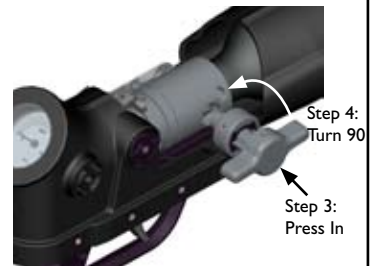

Figure 14d - Close Nozzle Valve
1. Use the Valve Key on the Launcher to close the Nozzle Valve on the Projectile. (Fig. 14d)
2. While pressing in, rotate the Valve Key 90 degrees in a clockwise direction. (Fig. 14c - Step 2) After rotating 90 degrees, release the Valve Key allowing it to extend fully. (Fig. 14d)
3. Press the valve key all the way in, while in the horizontal position. **Maintain a constant pressure.** (Fig. 14d - Step 3)
4. While pressing in, rotate the Valve Key 90 degrees in a counter-clockwise direction. (Fig. 14d - Step 4)